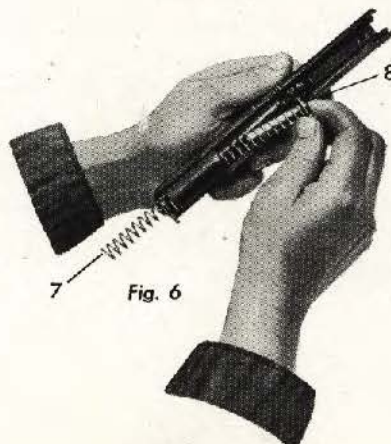

Fig. 6
**Replace the recoil spring and spring guide.** Keeping the slide upside down, push the spring into its housing from the rear. The spring guide goes toward the rear with the rounded slot resting over the barrel. (See fig. 6)